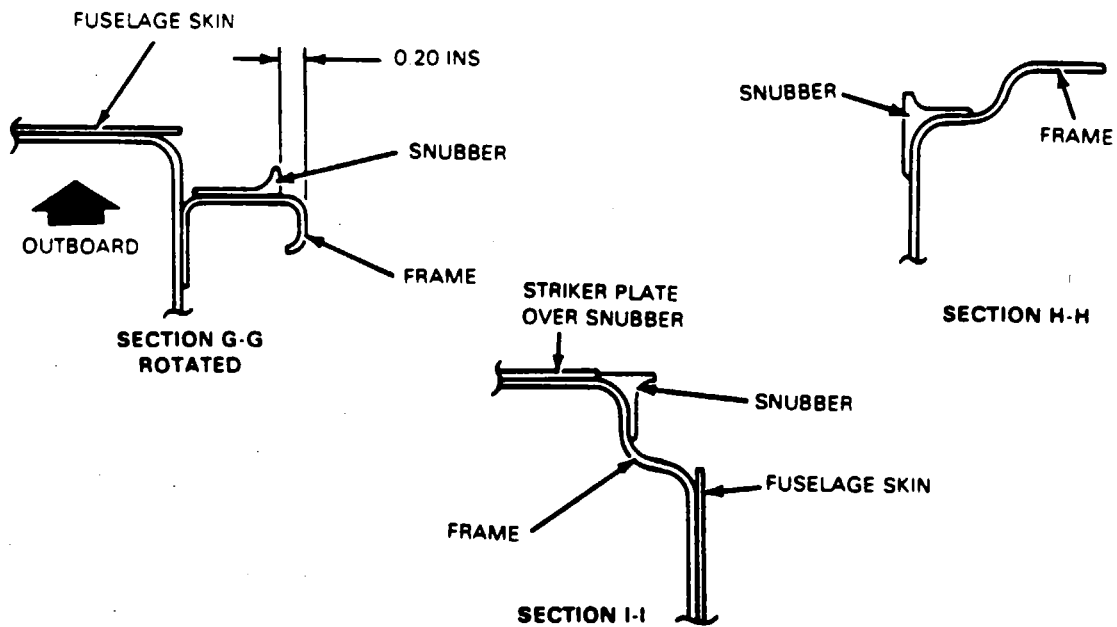

Figure 52-1. Snubber Installation (cont)
B. Although not critical, it is recommended that masking tape be applied to the door jamb at the borders of the area to be glued. (Refer to Figure 52-1.)